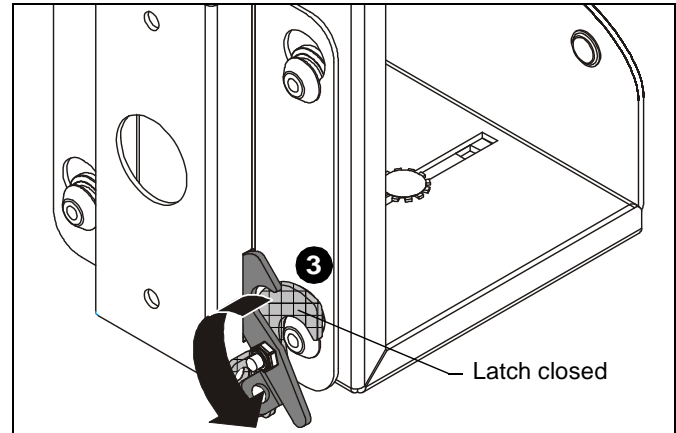

Figure 14
3. Move flag to closed position in order to fully secure mount to bracket. (See Figure 14)